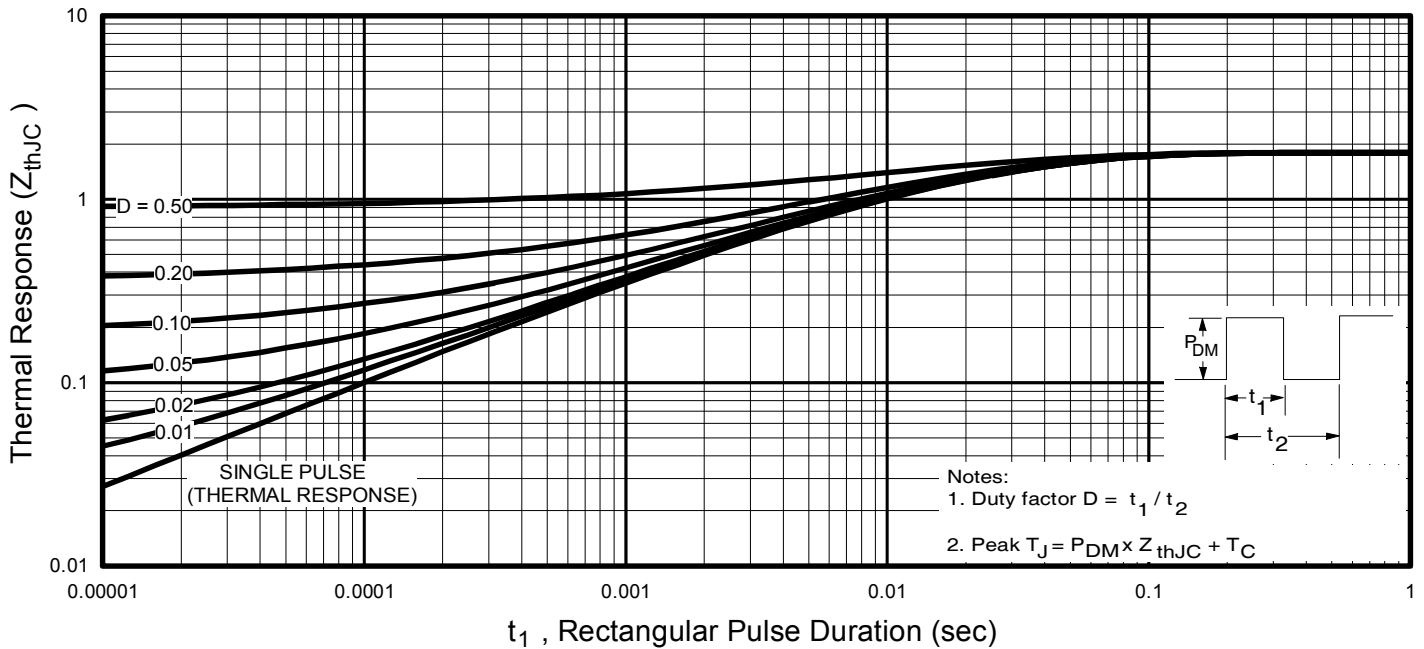

Fig 11. Maximum Effective Transient Thermal Impedance, Junction-to-Case
- ① Repetitive rating; pulse width limited by max. junction temperature. (See Fig.11)